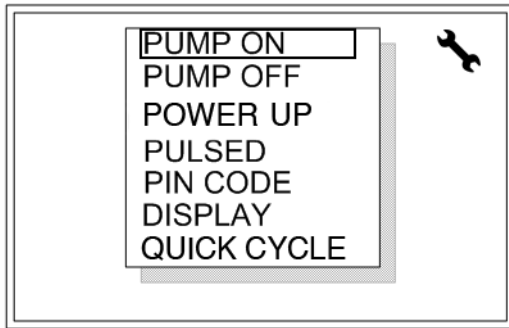

FIG. 22
8. If the PIN Code you entered is correct, the System Setup Screen, shown in FIG. 22 displays.
1. Use the UP/DOWN arrows to move the cursor up and down through the list of setup screens (FIG. 22).